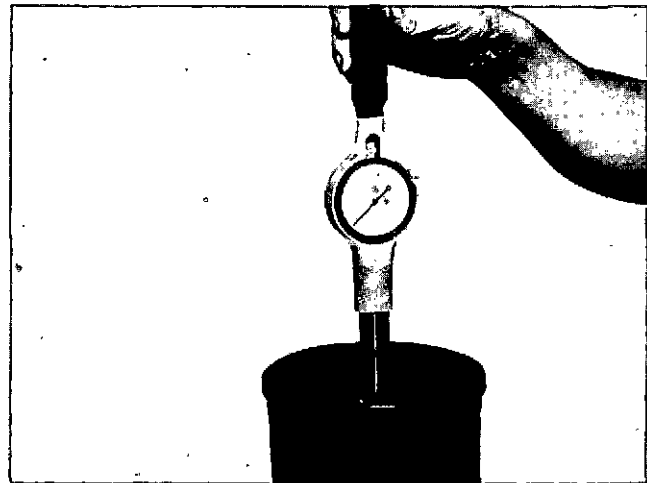

Fig. 1-2-1, V40131. Measuring liner bore
5. Check worn liners with dial bore gauge. Fig. 1-2-1. If liners are worn more than 0.004 inch [0.1016 mm] in excess of new liner maximum diameter, replace. See Table 1-2-1 for new liner dimensions.